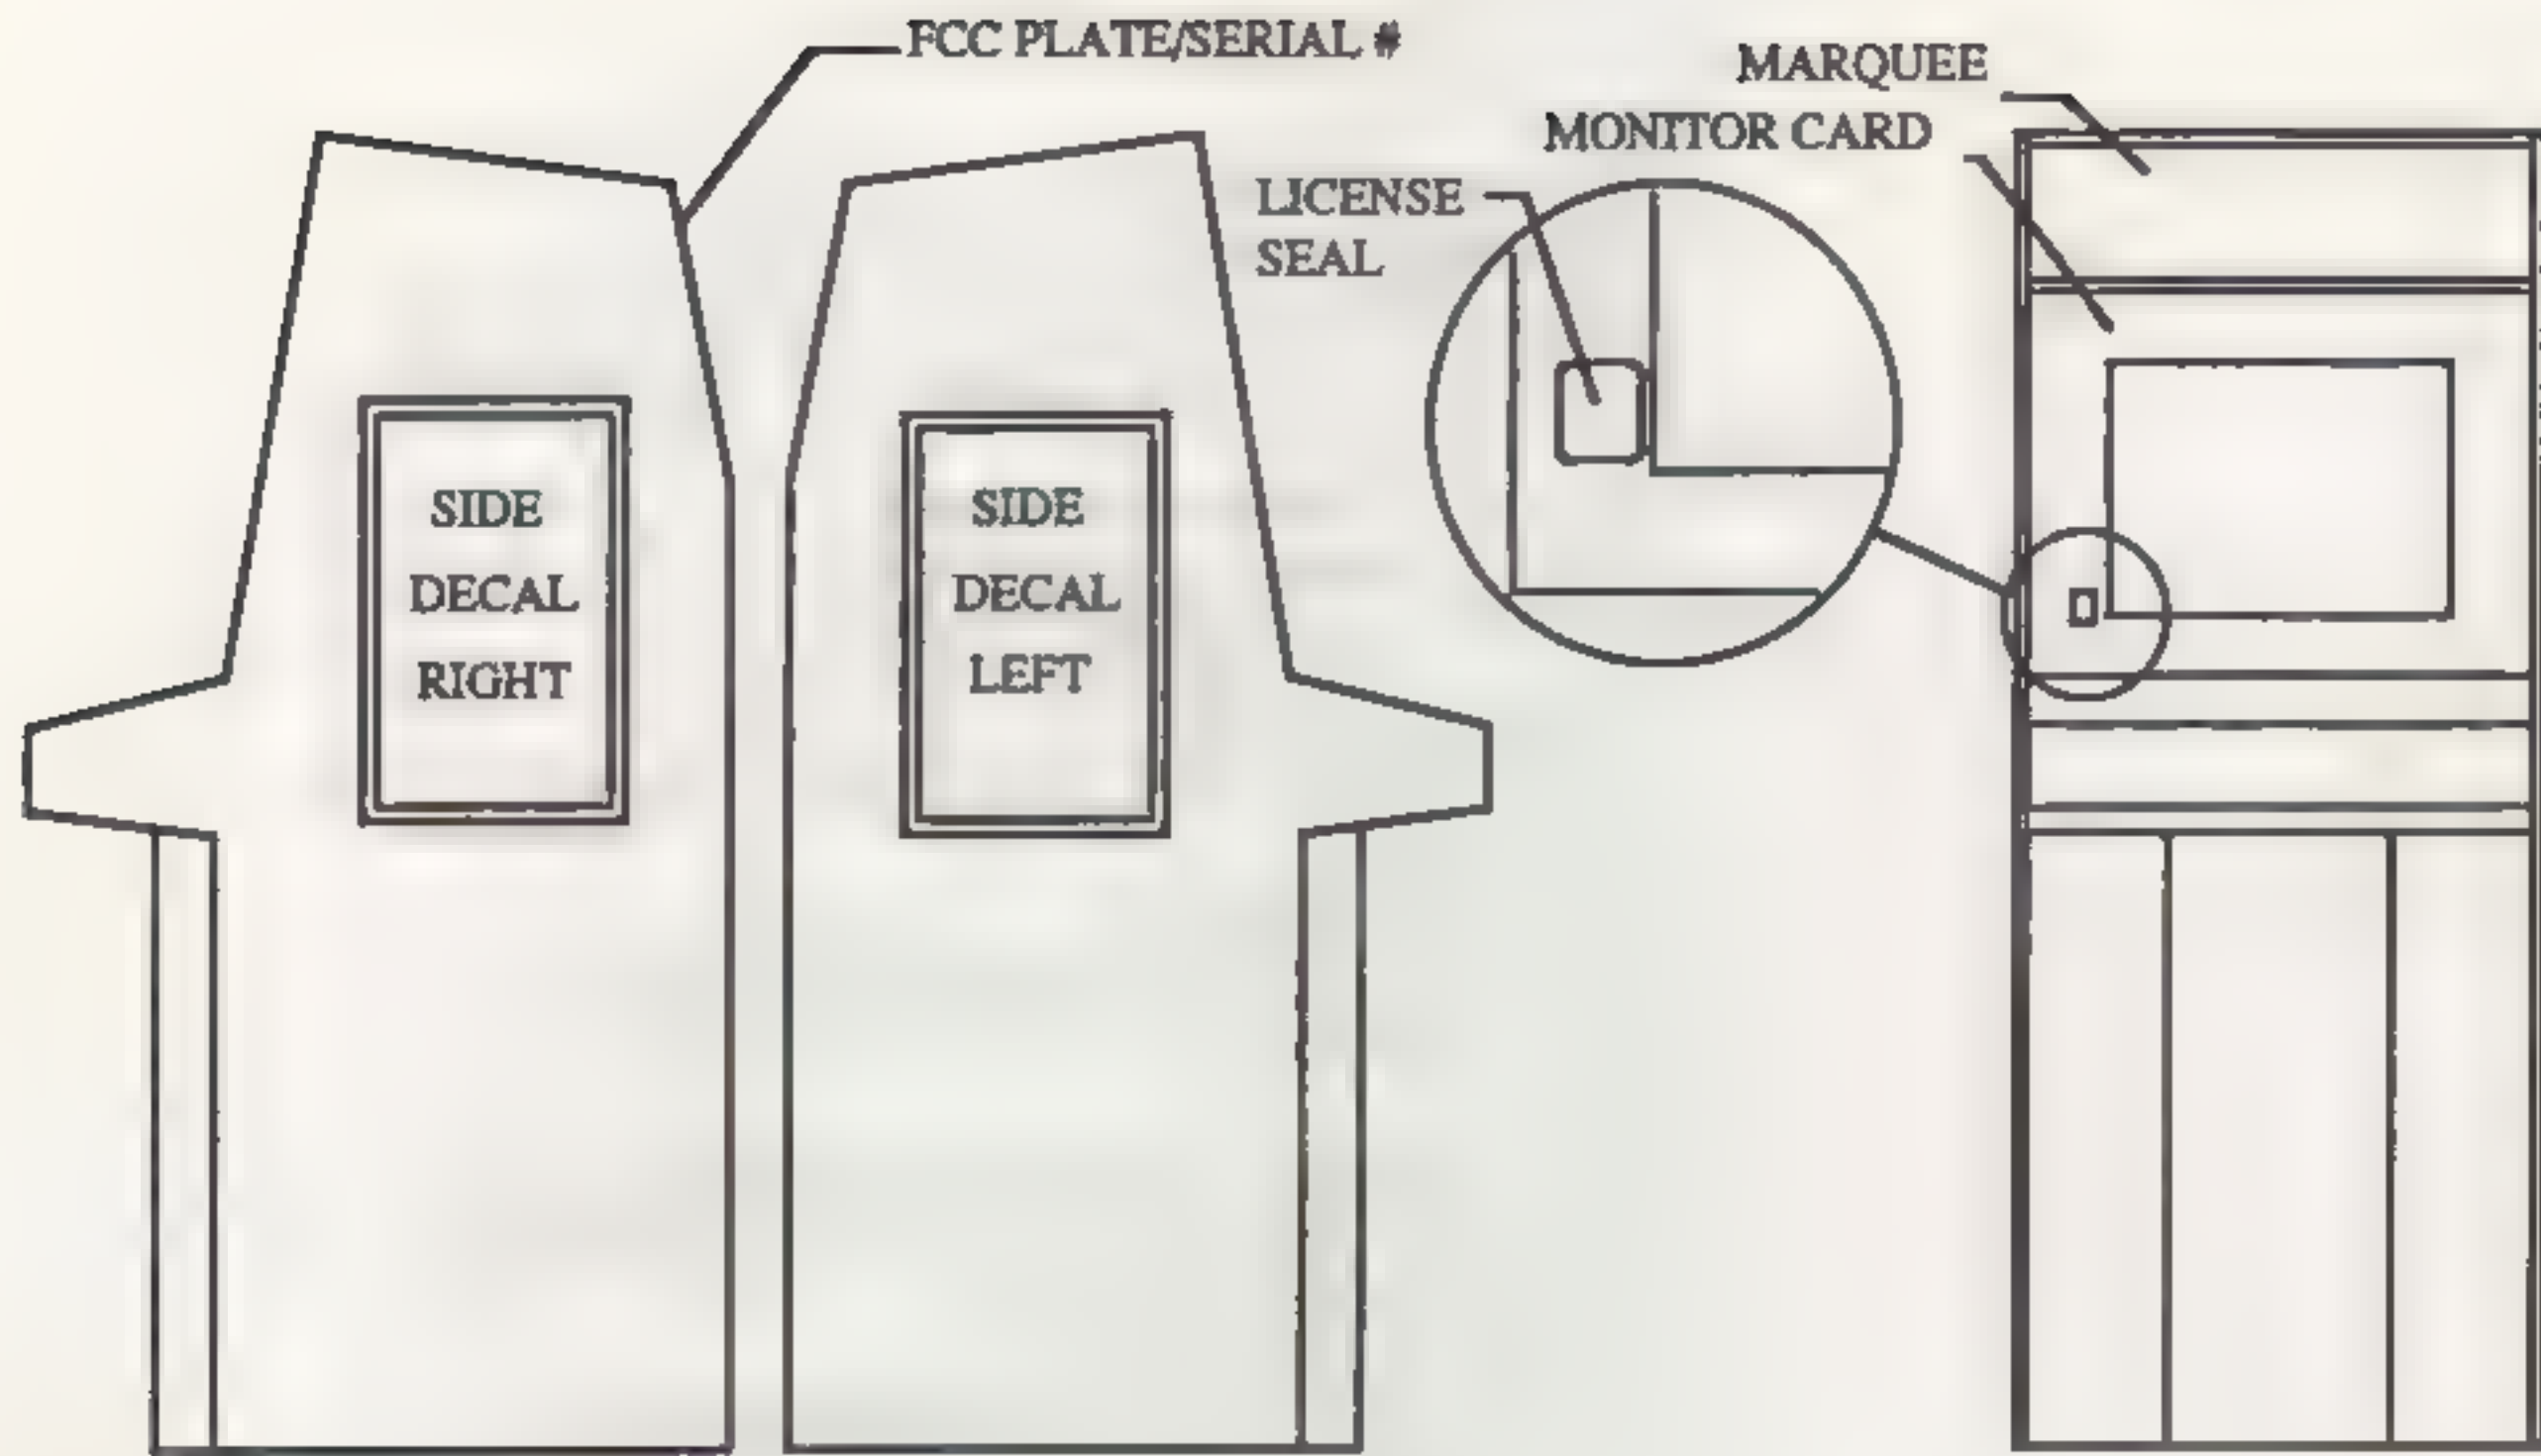

Figure 1
36. Locate the Kit SERIAL NUMBER STICKER and FCC PLATE. Install on the rear of the game cabinet. (see figure 1 )